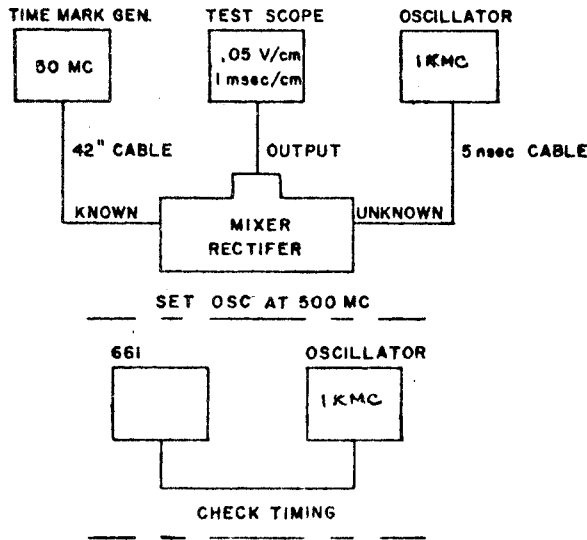

FIG. 4
- e) Apply 1 kmc to 4S1 input, and with 5T1A at 1 nsec/cm sweep speed, adjust C263 for 1 cycle/cm with X1 TIME EXPANDER setting. Use diode detector and Type 180 at 50 mc to check 1 kmc setting (see Fig. 4).